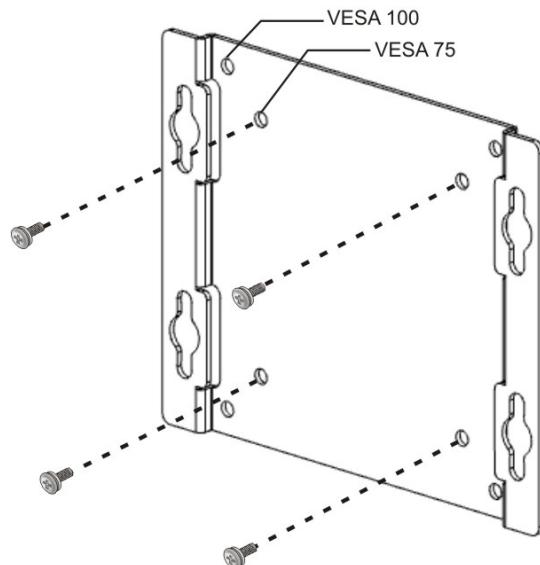

Figure 3–15: Attach Mounting Bracket
- Step 1:** Attach the mounting bracket to a VESA 75/100 mounting surface with four screws. Make sure it is attached securely. See **Figure 3–15**.
- Step 2:** Screw the included mounting screws (M4*6) to the mounting holes on the bottom of the IDS-310-AL (**Figure 3–16**).